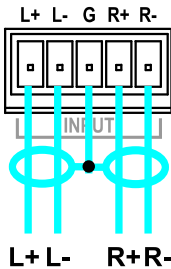

Figure 7: Connecting a Balanced Stereo Audio Input and Output
- A balanced stereo audio input and output, see *Figure 7*